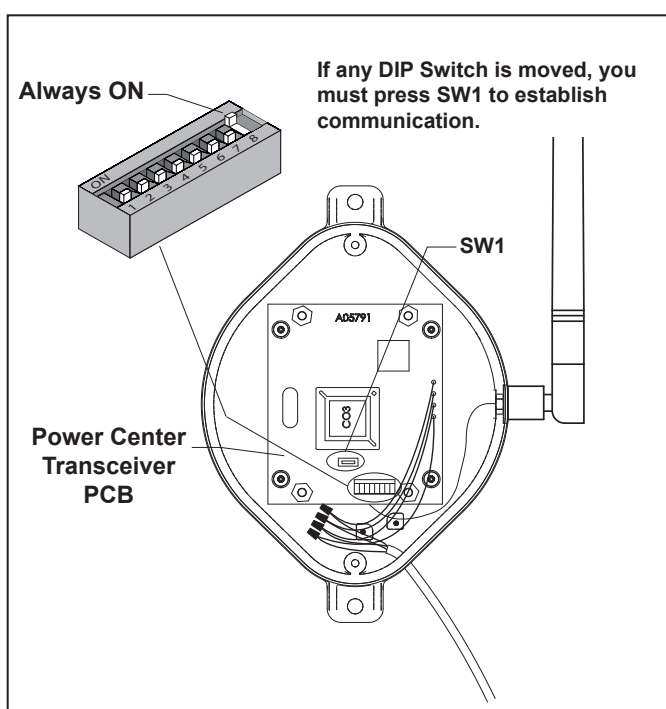

Figure 36. DIP Switch Settings at Power Center J-Box
3. At the outdoor transceiver J-box, remove the cover to expose the transceiver PCB (see Figure 36). Set the DIP switches (except #8) to the same settings as the control panel transceiver PCB that is in the house. **Important-** Before installing the J-box cover, press the reset button (SW1). Close the cover and test the system.